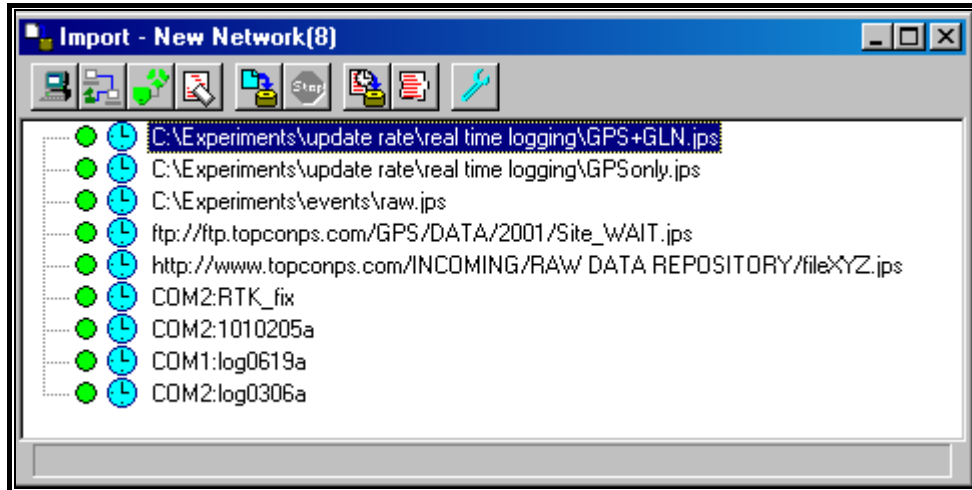

Figure 1-2
If the user opens this window for the first time, it will be empty. If some *data channels* have already been specified, the user will see a list of the existing data channels (see Figure 1-2).
As seen from Figure 1-2, a *data channel* can be
- 4) Finally, the user will select the logfiles imported and press the *OK* button. These logfiles will be added to the import schedule as new data channels (see the four bottom-most channels in Figure 1-2).